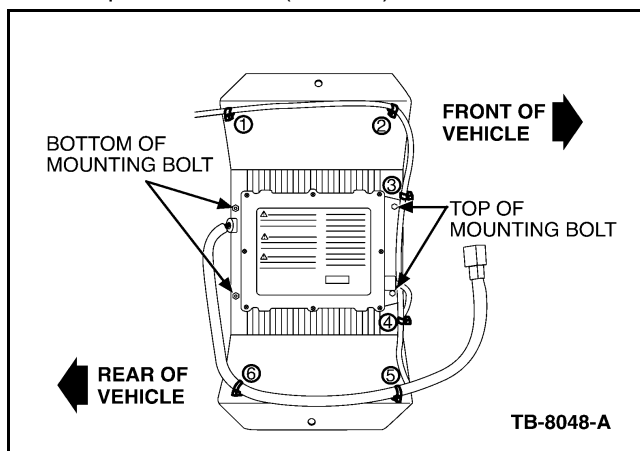

Figure 7 - Article 04-24-9
2. Line the LED display on the charger up with the "F" stamped on the mounting bracket. Mount the new charger onto the mounting bracket and secure using the supplied charger to bracket mounting bolts and nylon locking nuts. The bolts must be installed into the bracket holes from the bottom of the mounting bracket for the rear holes, and from the top of the bracket for the front holes (Figure 7). Torque to 12 lb-ft (16 N•m).
3. Install six (6) fir tree tie straps into the mounting bracket and strap down AC and DC lines (Figure 7).